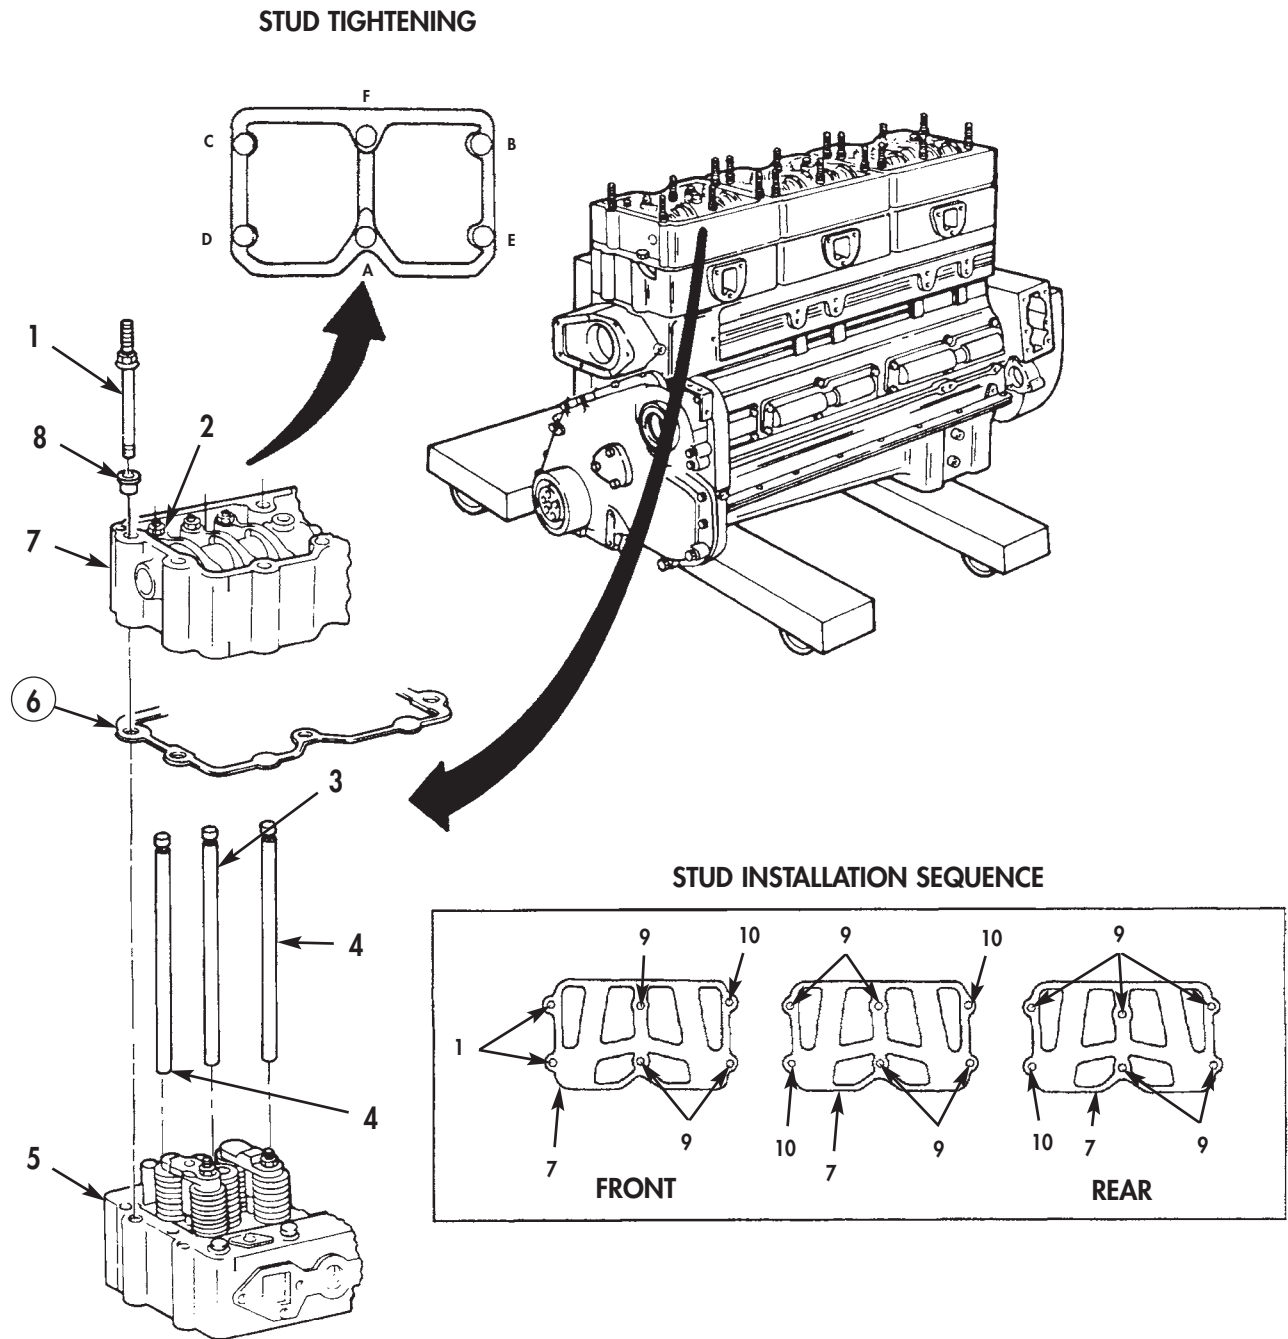

Figure 3. Rocker Arm Housing Installation.
7. Install six rocker housing studs (1), (9), and (10) on rocker housings (7) as shown in figure 3. Tighten studs (1), (9), and (10) 65 lb-ft (68 N•m) in sequence shown in figure 3.